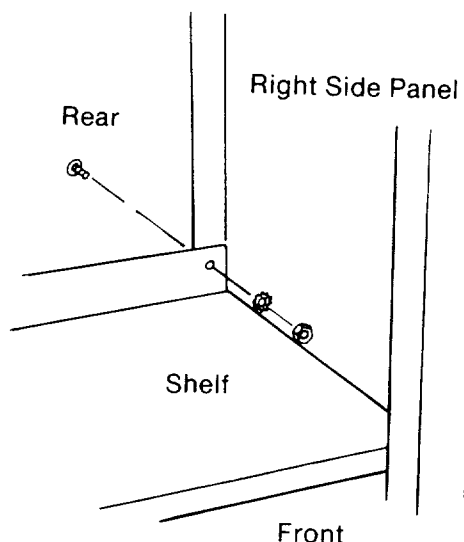

Fig. 22
22. Put a truss head bolt through the hole at the back, right corner of the *shelf*. This hole goes through the *shelf* and the *right side panel*. (Figure 22)